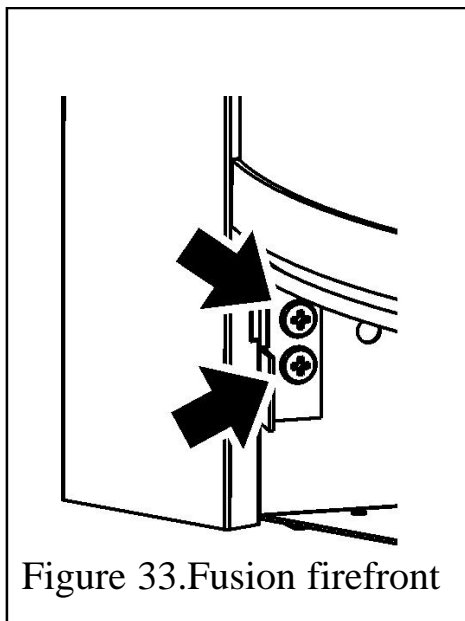

Figure 33. Fusion firefront
1. The Fusion firefront is secured in place using four screws. Locate the firefront brackets with the holes in the bottom of the firebox and secure each both sides with the two 'B' screws supplied (See figure 33).